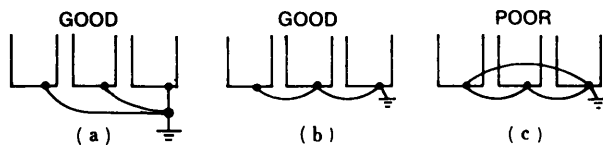

Fig. 9 Grounding of Three VS-616HII Units
- (1) Ground resistance should be  $100\Omega$  or less.
- (2) Never ground VS-616HII in common with welding machines, motors, and other large-current electrical equipment, or ground pole. Run the ground lead in a separate conduit from leads for large-current electrical equipment.
- (3) Use ground lead listed in Table 3 and make the length as short as possible.
- (4) Even when VS-616HII is grounded through its mounting such as channel base or steel plate, be sure to ground VS-616HII using the ground terminal (E).
- (5) Where several VS-616HII units are used side by side, all the units should preferably be grounded directly to the ground poles. However, connecting all the ground terminals of VS-616HII in parallel, and ground only one of VS-616HII to the ground pole is also permissible (Fig. 9). However, do not form a loop with the ground leads.